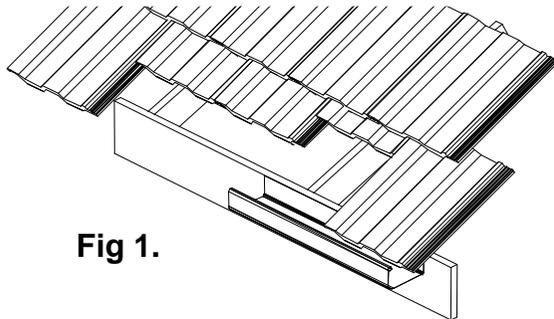

Fig 1.
1 Slip three (3) tiles to expose two (2) rafters as per fig 1.